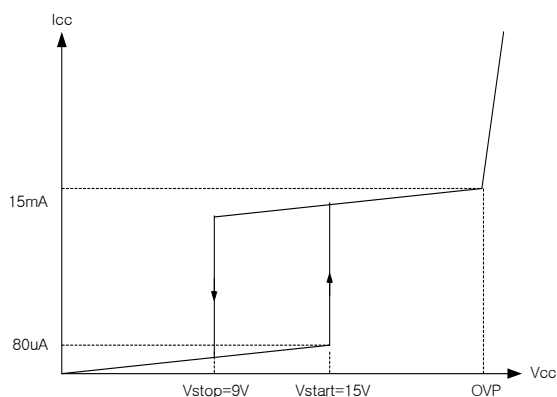

Figure 1. Start up with hysteresis
**1. Start up :** To guarantee stable operation of the control IC, FS8S0965RCB has UVLO circuit with 6V hysteresis band. Figure 1 shows the relation between the supply current ( $I_{cc}$ ) and the supply voltage ( $V_{cc}$ ). Before  $V_{cc}$  reaches 15V, the FPS consumes only startup current of 80 $\mu$ A, which is usually provided by the DC link through start-up resistor. When  $V_{cc}$  reaches 15V, the FPS begins operation and the operating current increases to 15mA as shown. Once the control IC starts operation, it continues its normal operation until  $V_{cc}$  goes below the stop voltage of 9V